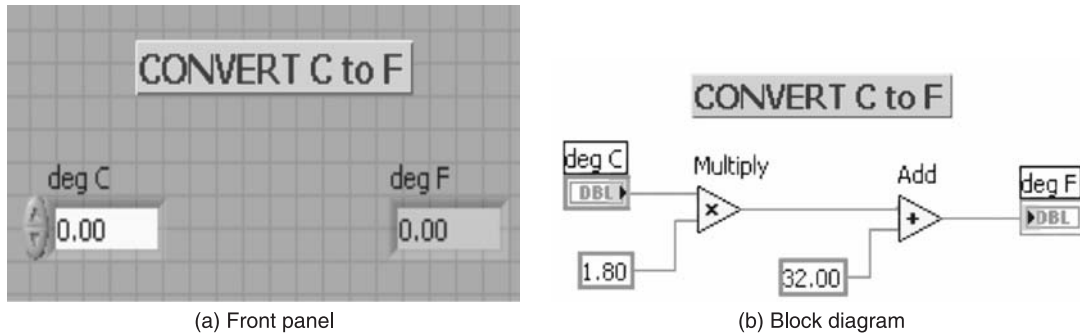

Figure P2.7
**Solution** The front panel and block diagram for solving the equation  $F = (1.8C + 32)$  are shown in Figures P2.7(a) and P2.7(b).